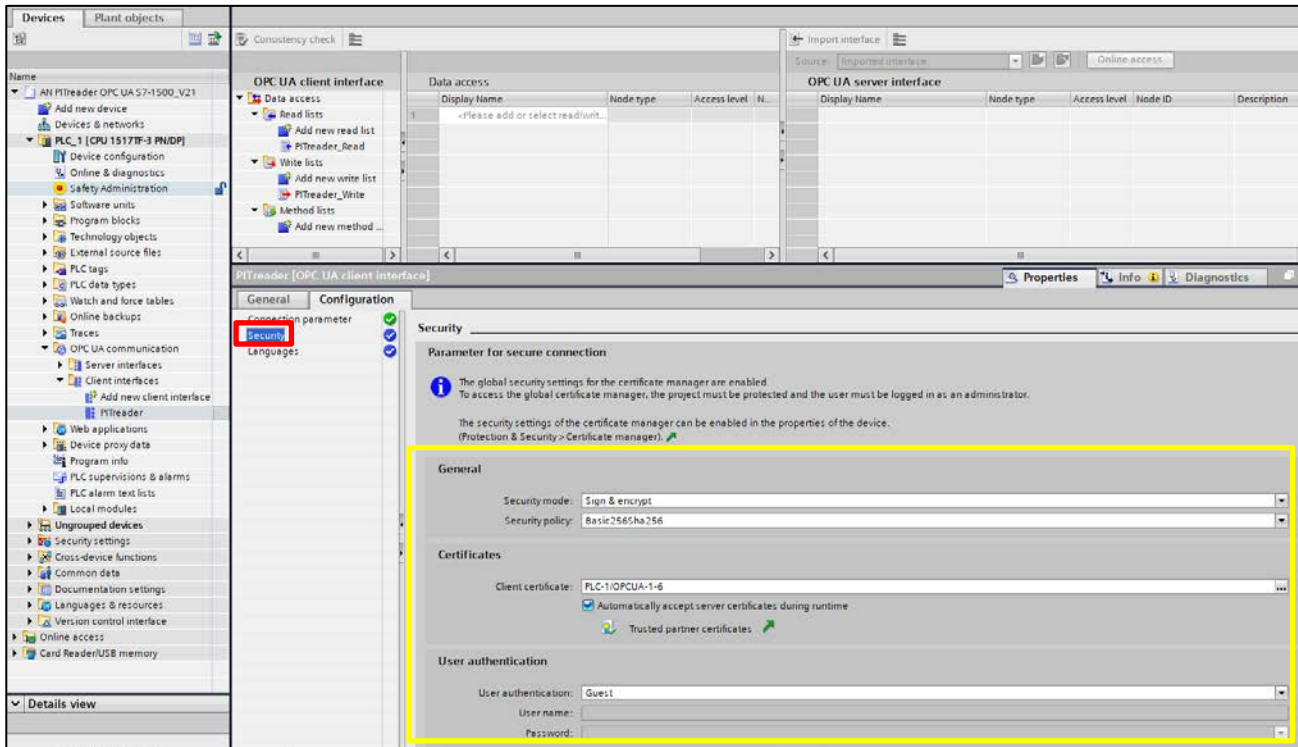

Figure 13: Create and configure OPC UA Client interface (2)
5. Navigate to *Configuration -> Security* (Figure 13 red square).
6. Select the parameters as shown in the illustration (Figure 13 yellow square). Under "*Client certificate*", select the certificate generated in Chapter 6.4 OPC UA Client certificate.